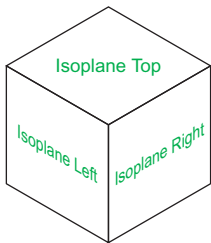

Fig. 7.16 The three isoplanes
- There are three isometric angles – **Isoplane Top**, **Isoplane Left** and **Isoplane Right**. These can be set either by pressing the **F5** function key or by pressing the **Ctrl** and **E** keys. Repeated pressing of either of these “toggles” between the three settings. Fig. 7.16 is an isometric view showing the three isometric planes.